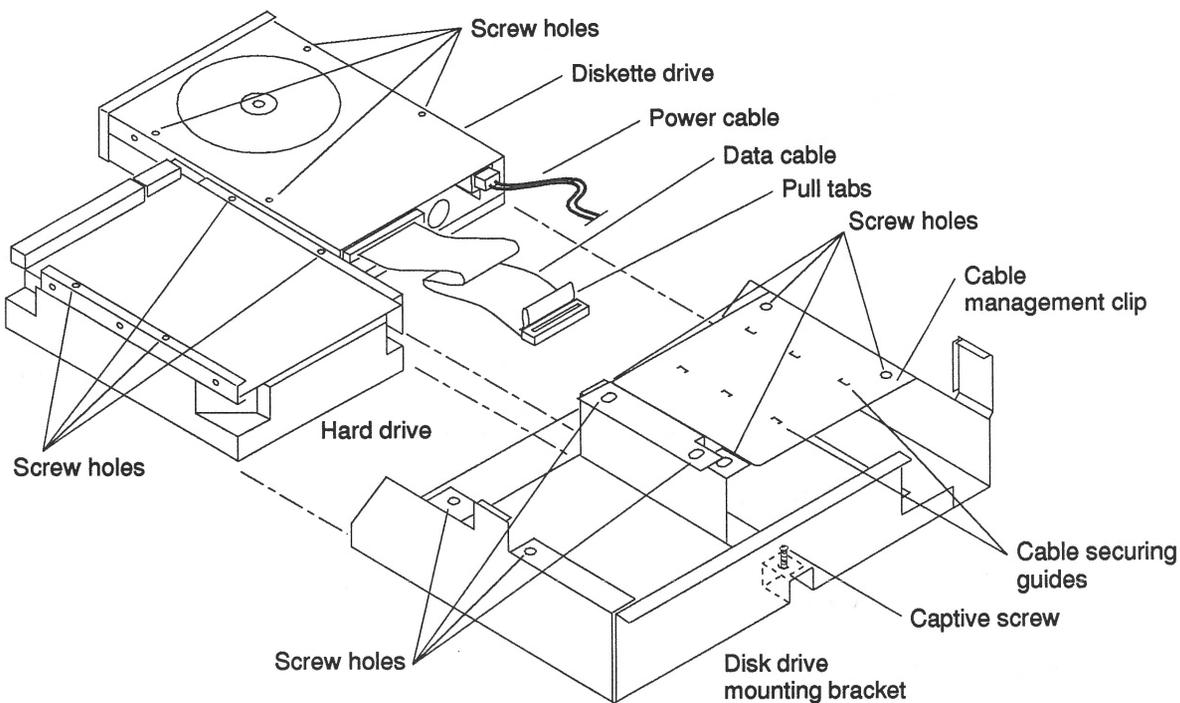

Figure 5-7 Disk Drive Mounting Bracket
3. Slide the hard disk drive into the bracket with the power and data cable connections facing the front of the unit. Refer to Figure 5-7.